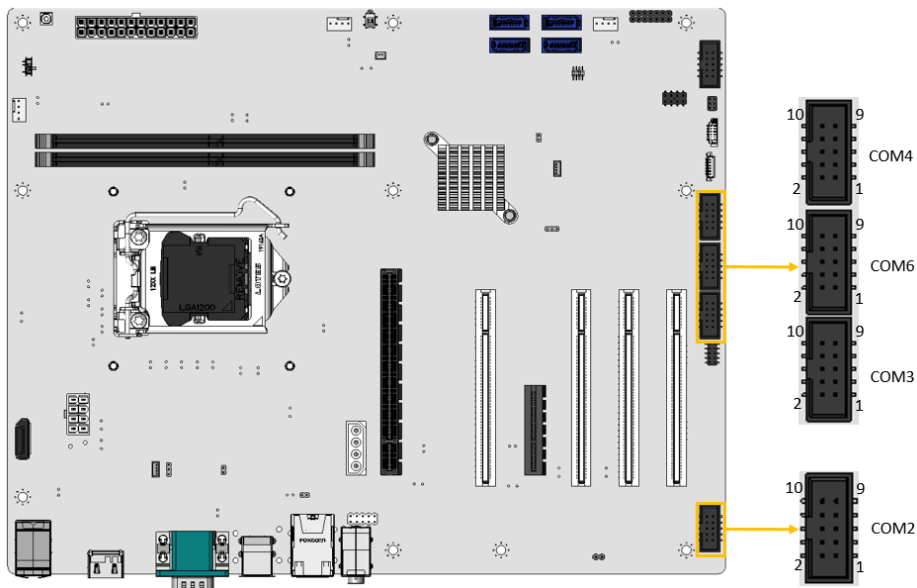

Figure 3-23: RS-232 Serial Port Connector Location
- CN Location:** See Figure 3-23